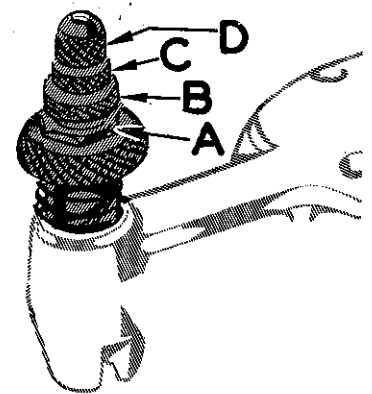

Fig. 2
Sufficient pressure to feed work uniformly should be maintained. Should it be necessary to increase or decrease amount of pressure on presser foot, loosen lock nut (A, Fig. 2) and turn adjusting screw (B). Adjusting screw has a right hand thread; so tightening increases pressure, loosening decreases pressure. When pressure adjusting screw (B) has been properly set, tighten lock nut (A). With presser foot resting on throat plate, position locking nut (C) so that its under surface is approximately 1/32 inch to 1/16 inch from the top surface of adjusting screw (B). Set cap (D) against locking nut (C).